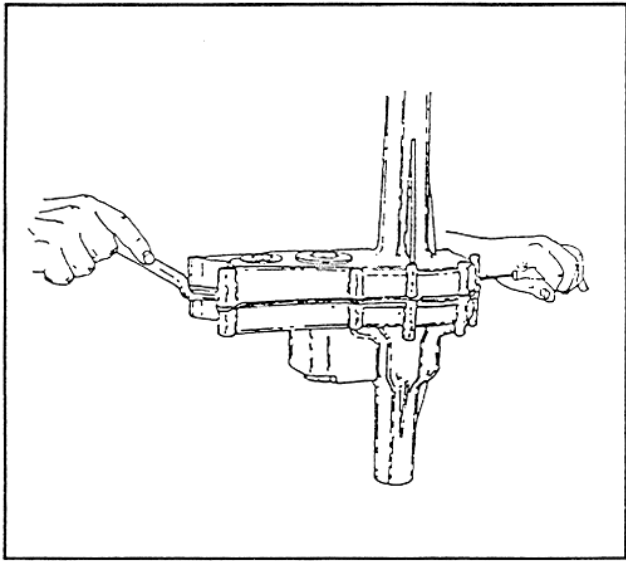

FIGURE 8
- 5.03 Carefully pry halves apart in areas shown in figure 8.